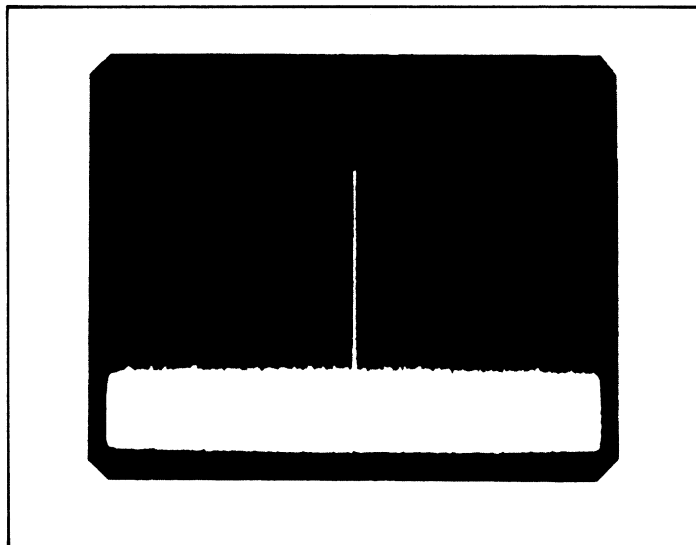

Figure 5-4. 300MHz Level.
2. Adjust A8R1 (LEVEL ADJ) until the level of the 300MHz spectral display on the 141T CRT is -22dBm. Refer to Figure 5-4.